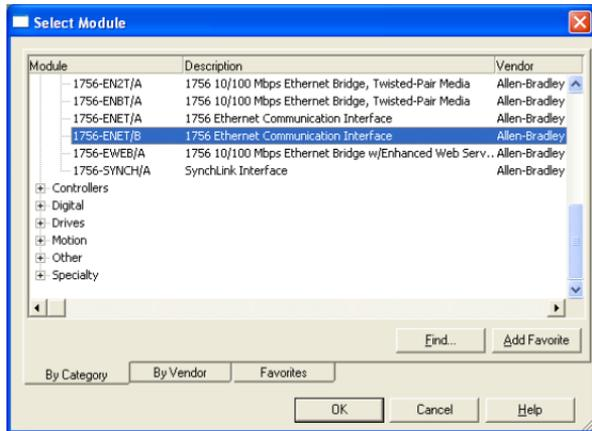

Figure 35: Adding a New Module
- Under “Communications”, select “1756-ENET/B”, and click OK. Refer to Figure 35.